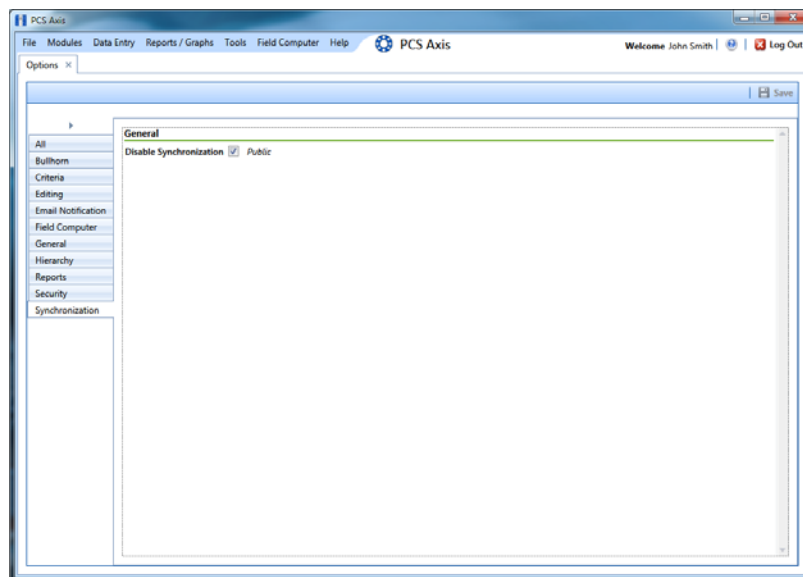

Figure 2-14. Disable Synchronization
- 2 Click the **Synchronization** tab to open the option page (Figure 2-14).